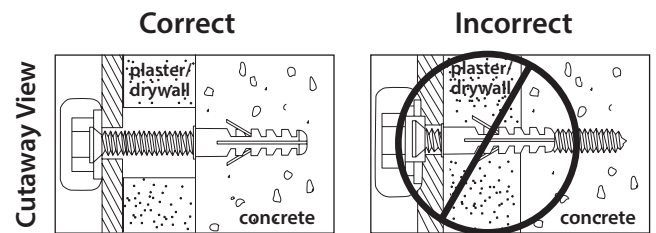

Figure 2
- Pre-drill six holes into concrete using 3/8" drill bits to a depth of 2 1/2". Insert concrete wall anchors (V) and tap in with hammer, if necessary (Figures 2 & 3).